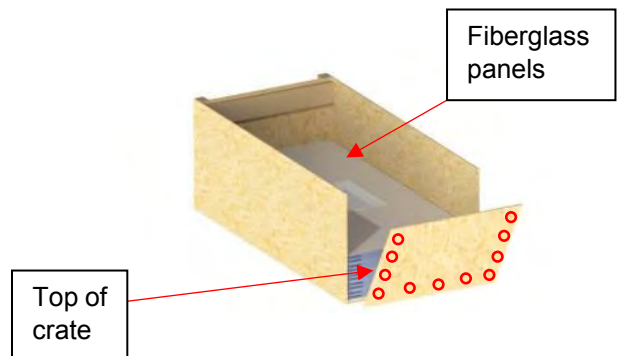

Figure 43
18) Unscrew the 11 Robertson #8-10 x 1.5 in. screws (four on each side and three at the bottom) holding the top of the crate. Then, remove the top of the crate (Figure 43).